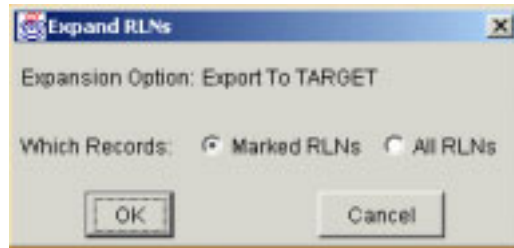

Figure 5.206 Expand RLNs Window
4. On the Detail Expansion menu, click the Export to TARGET command. The Expand RLNs window opens (Figure 5.206).